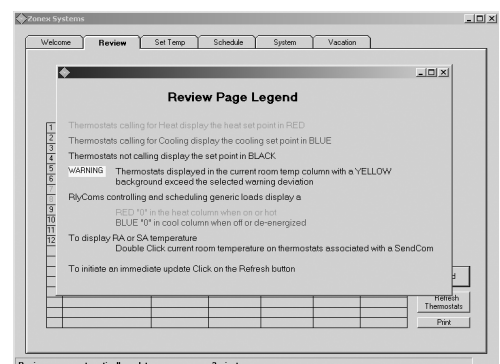

Fig. 20
3. Click on the **Legend** button for an explanation of activities displayed on the **REVIEW** Screen (see Fig. 20).